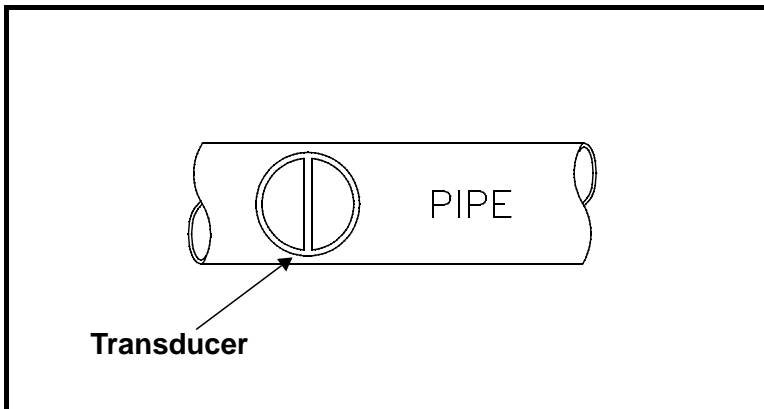

Figure G-1: Proper Alignment of Transducers for Cylindrical Surfaces
- B. Transducer Positioning/Alignment** — For proper sound coupling the transducer must be pressed firmly against the test surface. On small diameter cylindrical surfaces such as pipes, hold the transducer so that the sound barrier material visible on the probe face is aligned perpendicular to the center axis of the pipe. See Figure G-1 below.